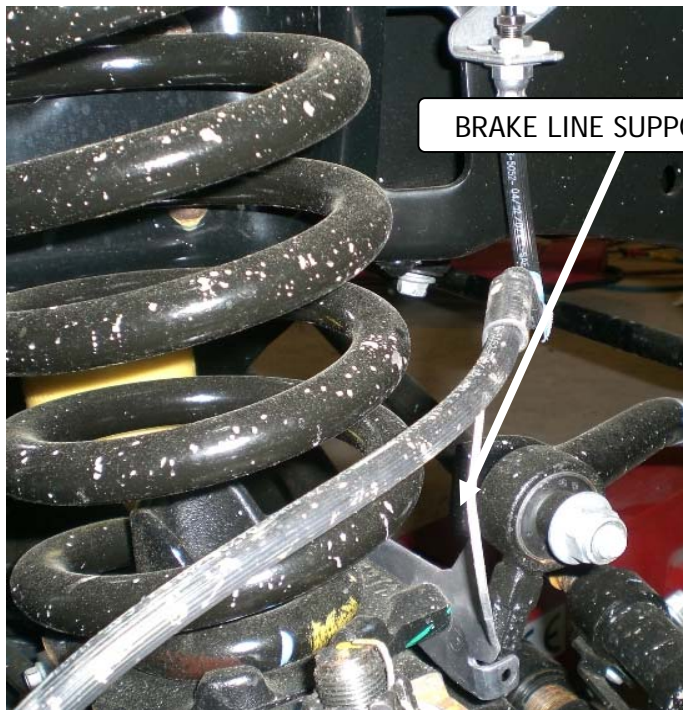
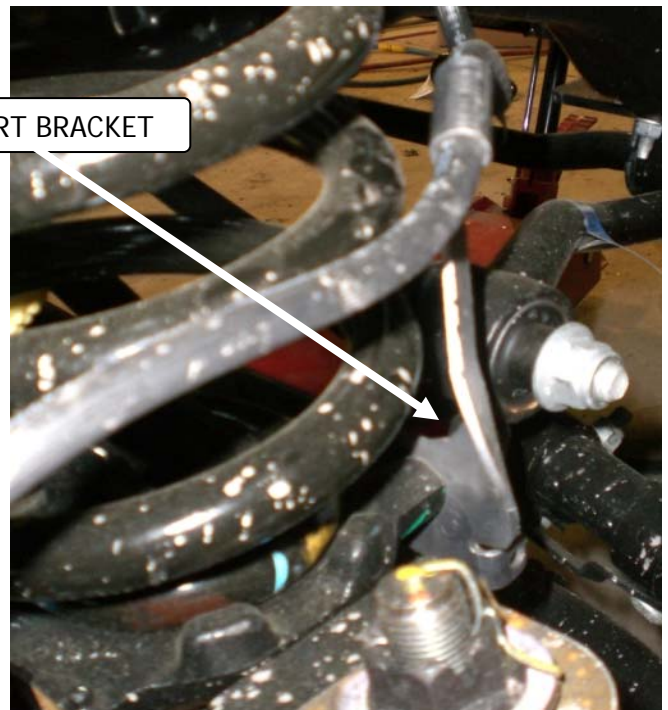

Figure 2
Figure 3
(Refer to Figure 1, Figure 2, and Figure 3)
- b. Bend the brake line support bracket towards the coil spring, leaving a small amount of room between the coil spring and bracket without touching (Figure 2) (Figure 3).